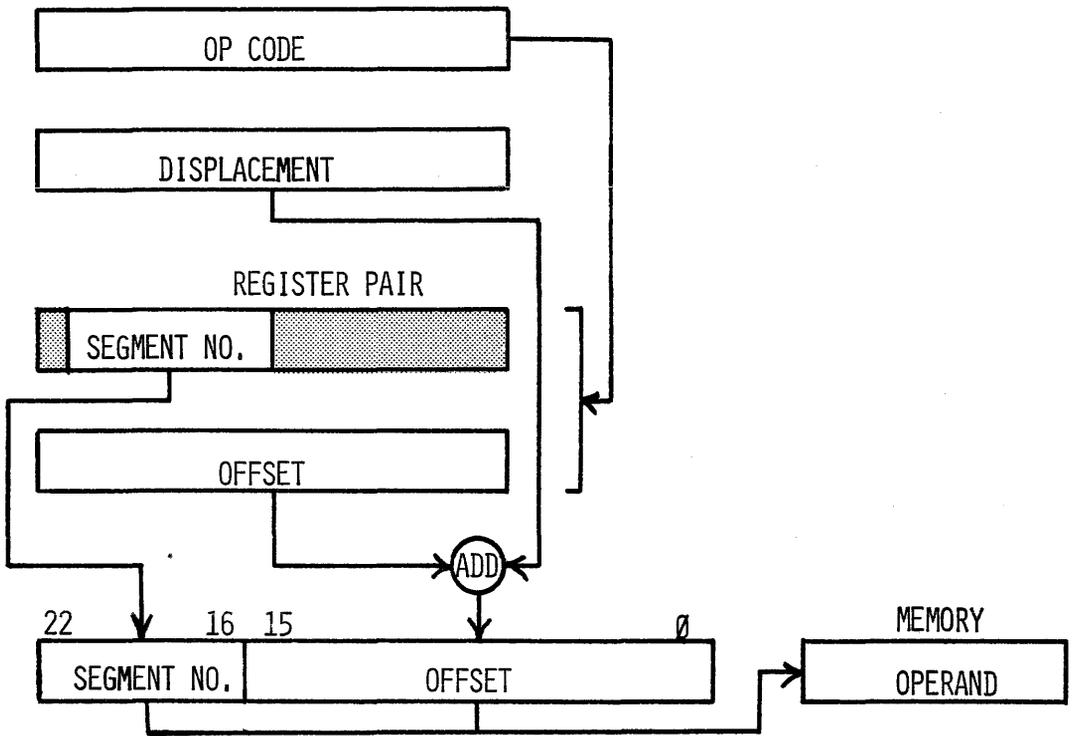
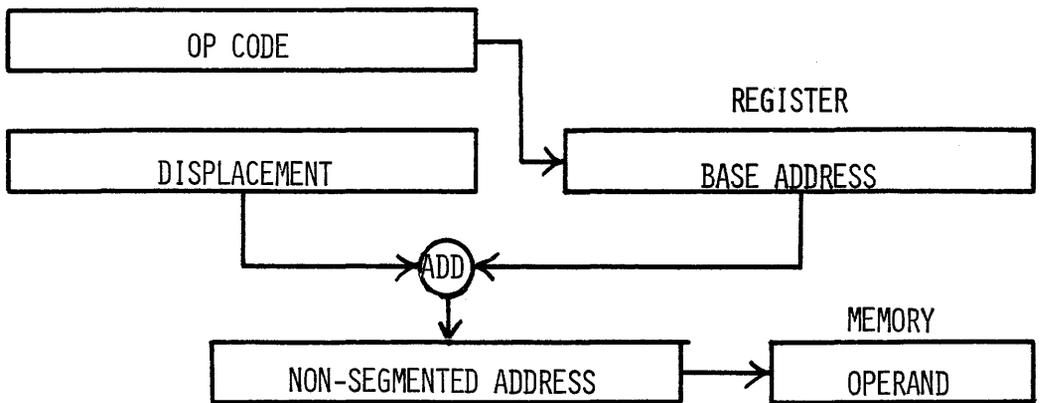

FIGURE 18 AmZ8001 BASE ADDRESS MODE
FIGURE 19 AmZ8002 BASE ADDRESS MODE
Base Address (BA): The instruction designates a general purpose register as the base address register. In case of AmZ8001, the instruction designates a register pair such that the 7-bit segment number is contained in one register and 16-bit offset is contained in the other as shown in Figure 18. In case of AmZ8002, the designated base address register contains 16-bit address as shown in Figure 19. Any general purpose register except R \emptyset or register pair except RR \emptyset can be designated as the base address register. The memory word immediately following the instruction opcode word contains a 16-bit displacement. Both displacement and base address are treated as unsigned binary integers. The 16-bit displacement is added to the 16-bit base address (16-bit offset is AmZ8001) and carry occurring from the most significant position during this addition is ignored. The resulting 16-bit value (together with the segment number of the base address in AmZ8001) is the address of the operand in memory.